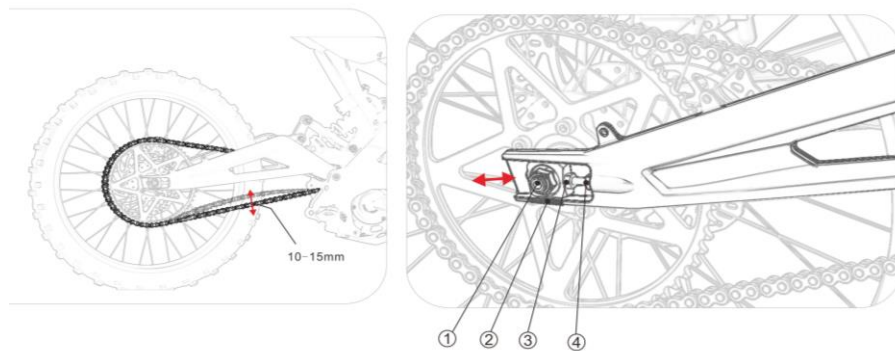

Fig 65
15.3.1 Install chains (see Fig 65)